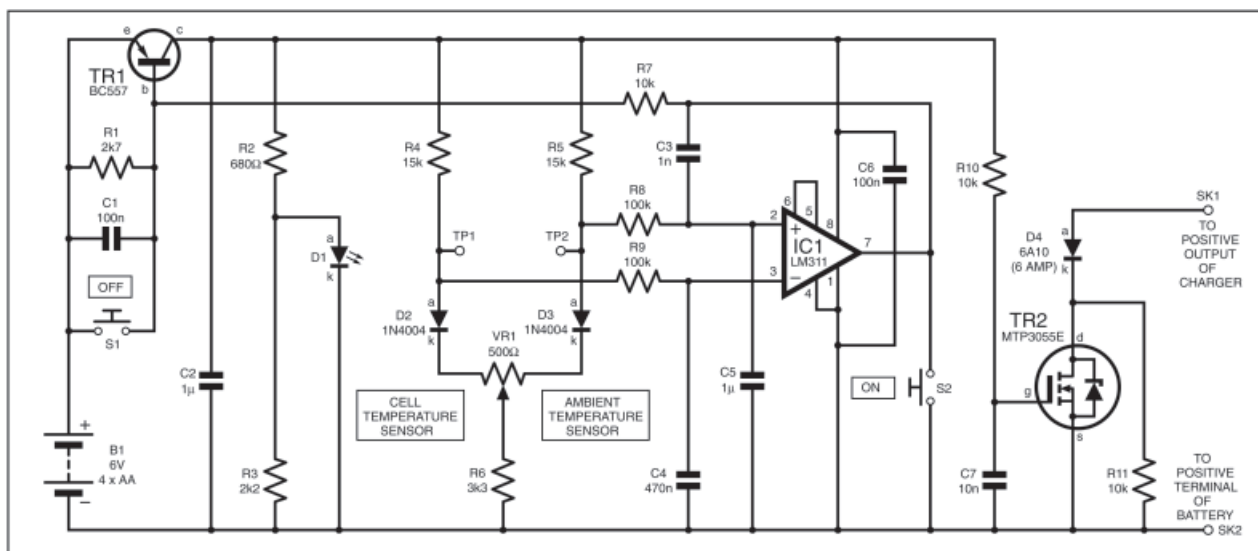

Fig.1. Circuit diagram for a Thermal Charge Monitor.
**M**ANY simple constant-current chargers for NiCd and NiMH batteries do not adapt to state-of-charge, so continue to deliver current, even to fully-charged batteries, until manually switched off. Depending on the current, such overcharging can damage batteries through excessive heating. The circuit diagram shown in Fig.1 when connected between such a charger and battery, will automatically switch off the charge current when the temperature rise of the battery indicates that full-charge has been reached.